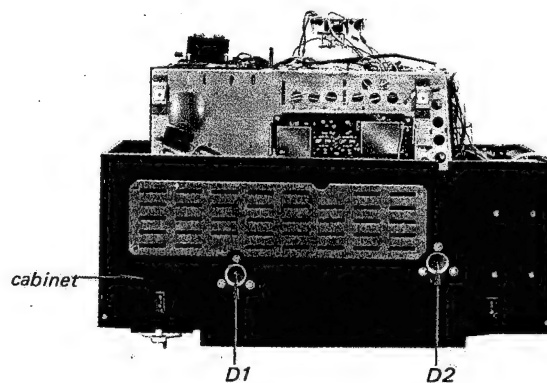

Fig. 2-5.
3. Remove the two screws labeled D1~2 in Fig. 2-5.